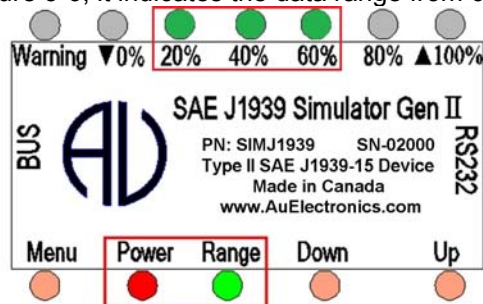

Figure 3-6
- If keep pressing **Up** button, the control step value will keep rising, the 20%, 40%, and 60% LED will be on, as shown in Figure 3-6, it indicates the data range from 61% to 79%.